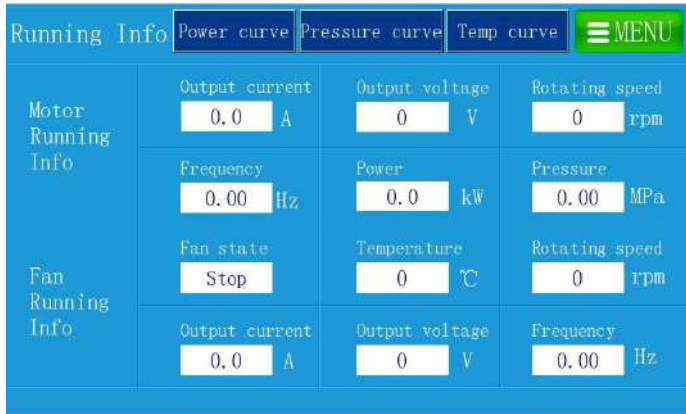

Figure 4-14 Running information interface
9. Choose **Running Info** in the menu. The page show in Figure 4-14 is displayed.